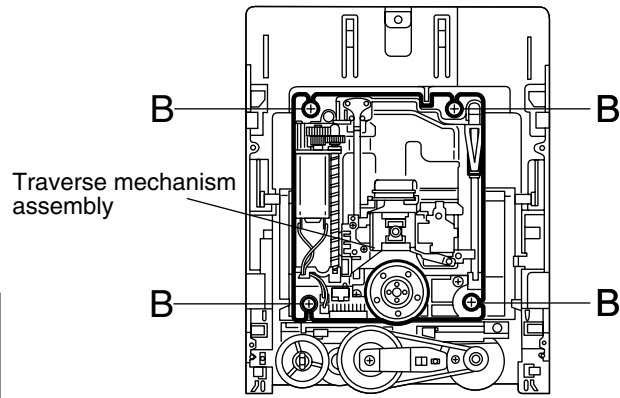

Fig.4
■ **Removing the traverse mechanism assembly (See Fig.4 and 5)**